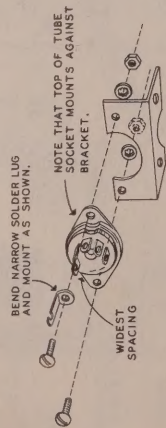

Figure 1
- (✓) Mount the small solder lug and the tube socket on the tube mounting bracket by means of the 3-48 screws, lockwashers and nuts. See Figures 1 and 2. Make certain that the widest spacing between pin holes is as shown in Pictorial 1.
- (✓) Bend the small solder lug as shown in Figure 1.